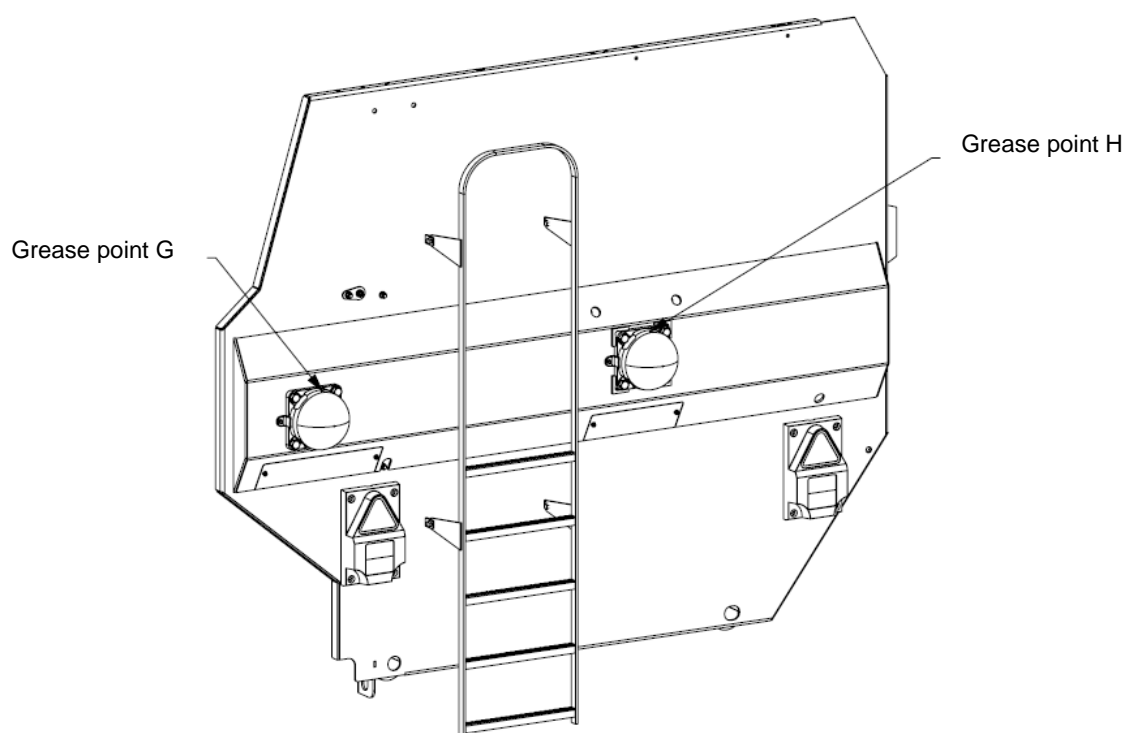

Figure 13: Rear grease points
- The two main bearings at the rear of the KEENAN MechFiber (G and H, Figure 13).